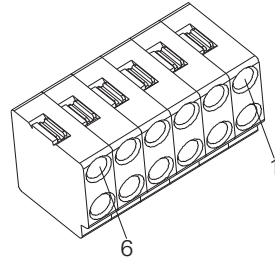
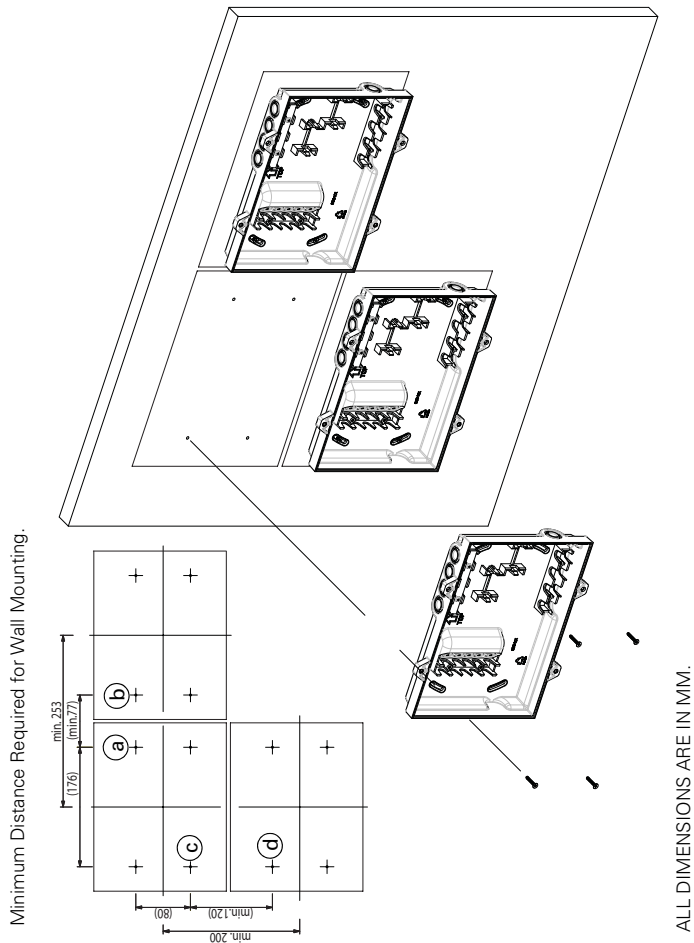

Fig. 6: WAGO Terminal Block - Wiring Connection
Fig. 8: Compact Network Repeater and Zonal Display Wall Mounting
- 4 Prepare four holes in the wall close to the compact network repeater for the screws plugs supplied by following the dimensions given in Fig. 8.
- 5 Mount the deep back cover (1) on the wall using the screw plugs and fixing screws (4) supplied.
- 8 Strip the conductors and push the wires into the WAGO terminal block supplied as shown in Fig. 6. Push the springs inside the terminal block to ensure that the wires are firmly gripped.
Figure 8 illustrates how to 'wall mount' the compact network repeater and the zonal display in a vertical or horizontal position with the required dimensions.
- 1 Replace the RJ11 end of the cable with the supplied WAGO terminal block to create a cable with WAGO terminal blocks at both ends. Refer to Fig. 6 for WAGO terminal wiring connection.